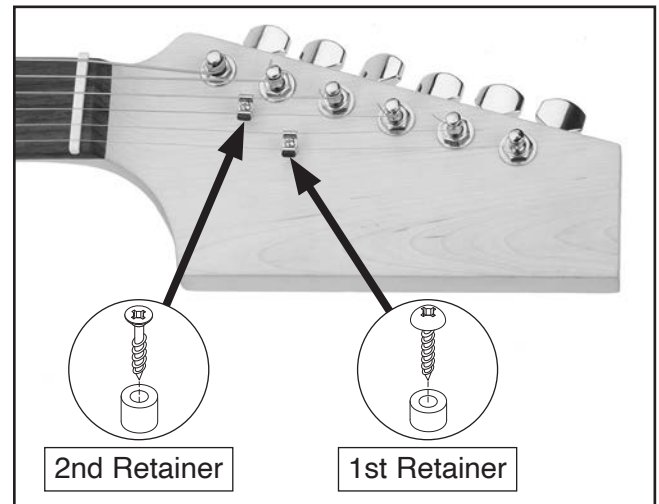

Figure 25. String retainer locations.
The string retainers mount between the 1st and 2nd strings, and between the 3rd and 4th strings (see **Figure 25**). String retainers are designed to hold the strings down against the nut to enable correct tuning.
3. Position 2.5 x 5 x 2.5 bushing under retainer and secure to headstock with M2.2 x 10 tap screw (see **Figure 25**).
5. Position 2.5 x 5 x 5 bushing under retainer and secure to headstock with M2.2 x 12 wood screw (see **Figure 25**).